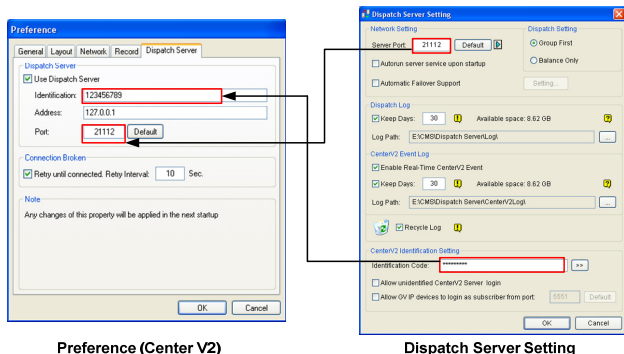

Figure 2-3
4. If you have arranged Center V2 servers and subscribers into groups in Dispatch Server, click the **Network** tab in the Preference window (Figure 2-3) and check the **Location Name** of the Center V2. The location name should match the Center V2 server name created on Dispatch Server.
- **Server Port:** The port should match with the Center Port of the subscriber and Dispatch Server Port of Center V2 (Figure 2-3). Or, keep the port setting as default.